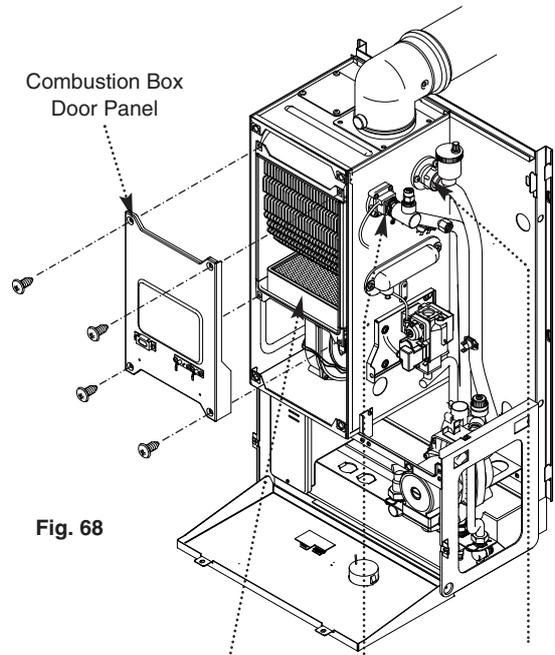

Fig. 68
1. Remove the combustion box door by removing the four securing screws (Fig. 68).